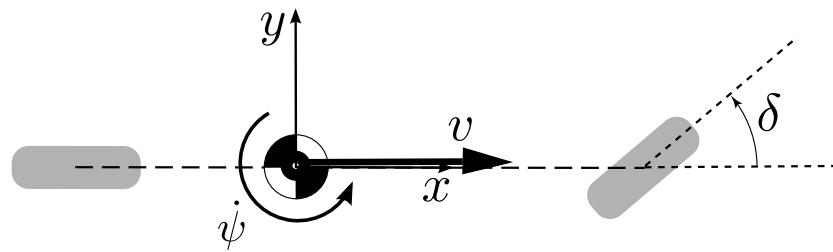

Figure 5: Bicycle model defining steering angle  $\delta$  (drawn in positive direction after "ISO 8855" coordinate system  $\Rightarrow z$  up) and speed  $v$ .
- DE7.3.8 Beside Remote Emergency System (RES) messages (see DE7.4.9), the messages defined in Table 4 must be provided to the DL with a cycle time of 100 ms each. Steering angle  $\delta$  and vehicle coordinate system is defined in figure 5.